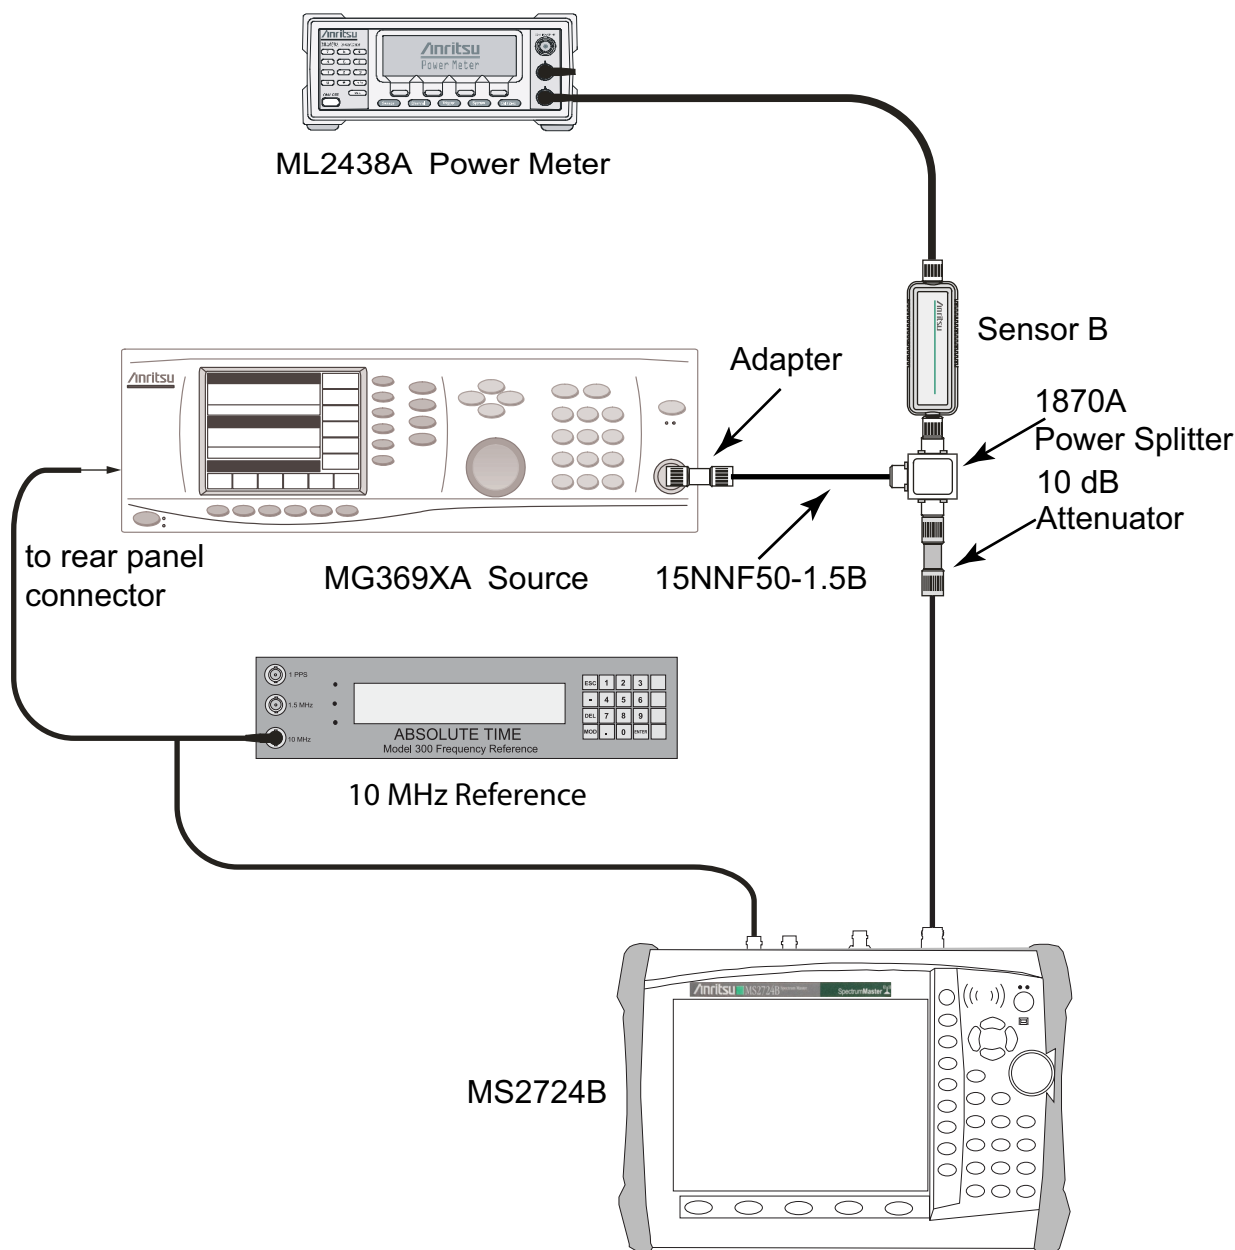

Figure 2-10. 50 MHz Amplitude Accuracy Verification – Test Setup
1. Connect the equipment as shown in Figure 2-10, “50 MHz Amplitude Accuracy Verification – Test Setup” on page 2-23, disconnecting Sensor A from the Attenuator, and connecting the RF In port of the MS2723B or MS2724B to the splitter output via the Attenuator.